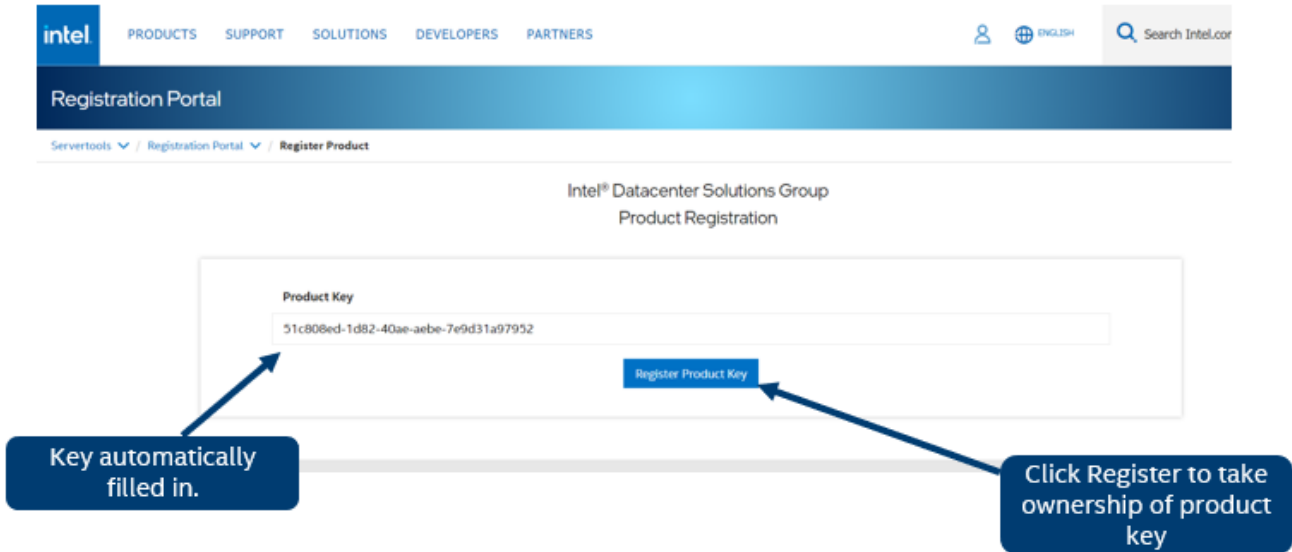

Figure 104. Register Key
- On the Registration Screen, Click the “Register” button to register the pre-entered license key number (see Figure 104)